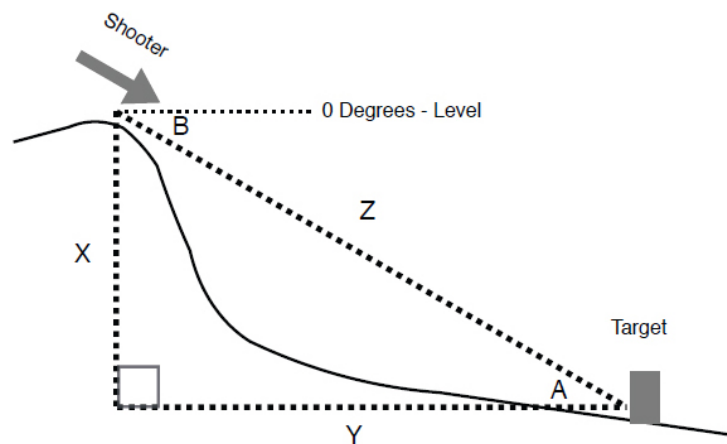

Figure 19.2-1
In the simplest terms possible, the bullet will cover more distance to the target at an angle than it would cover side-to-side across the ground. In Figure 19.2-1 you can see a triangle made from the elevation of a shooter on a hill (X), the distance to the target down the hill (Y), and the line of sight to the target (Z). Note that the line of sight is longer than the horizontal distance across the ground. Even though the bullet will travel the full distance to the target (Z), gravity will only affect it as if it traveled the shorter horizontal distance (Y). The trick, then is to figure out the length of the horizontal side of the triangle.
Another trigonometric rule to remember is that alternate angles are equal. All you need to know for this is that angle B in Figure 19.2-1 is the same as angle A. You’ve measured angle B to be 30 degrees. Now, with knowing the actual distance to the target and the angle, we can figure out the horizontal distance. This distance is the shorter distance that we use for elevation instead of the real distance; I call this the “angle distance.”